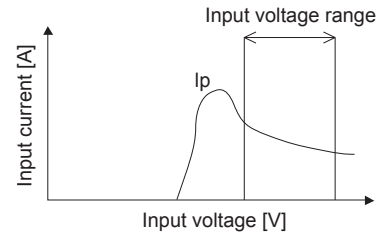

Fig.3.2 Input Current Characteristics
■ Choose a front end power supply that can supply enough current I_p (Fig. 3.2) for starting up the power module.